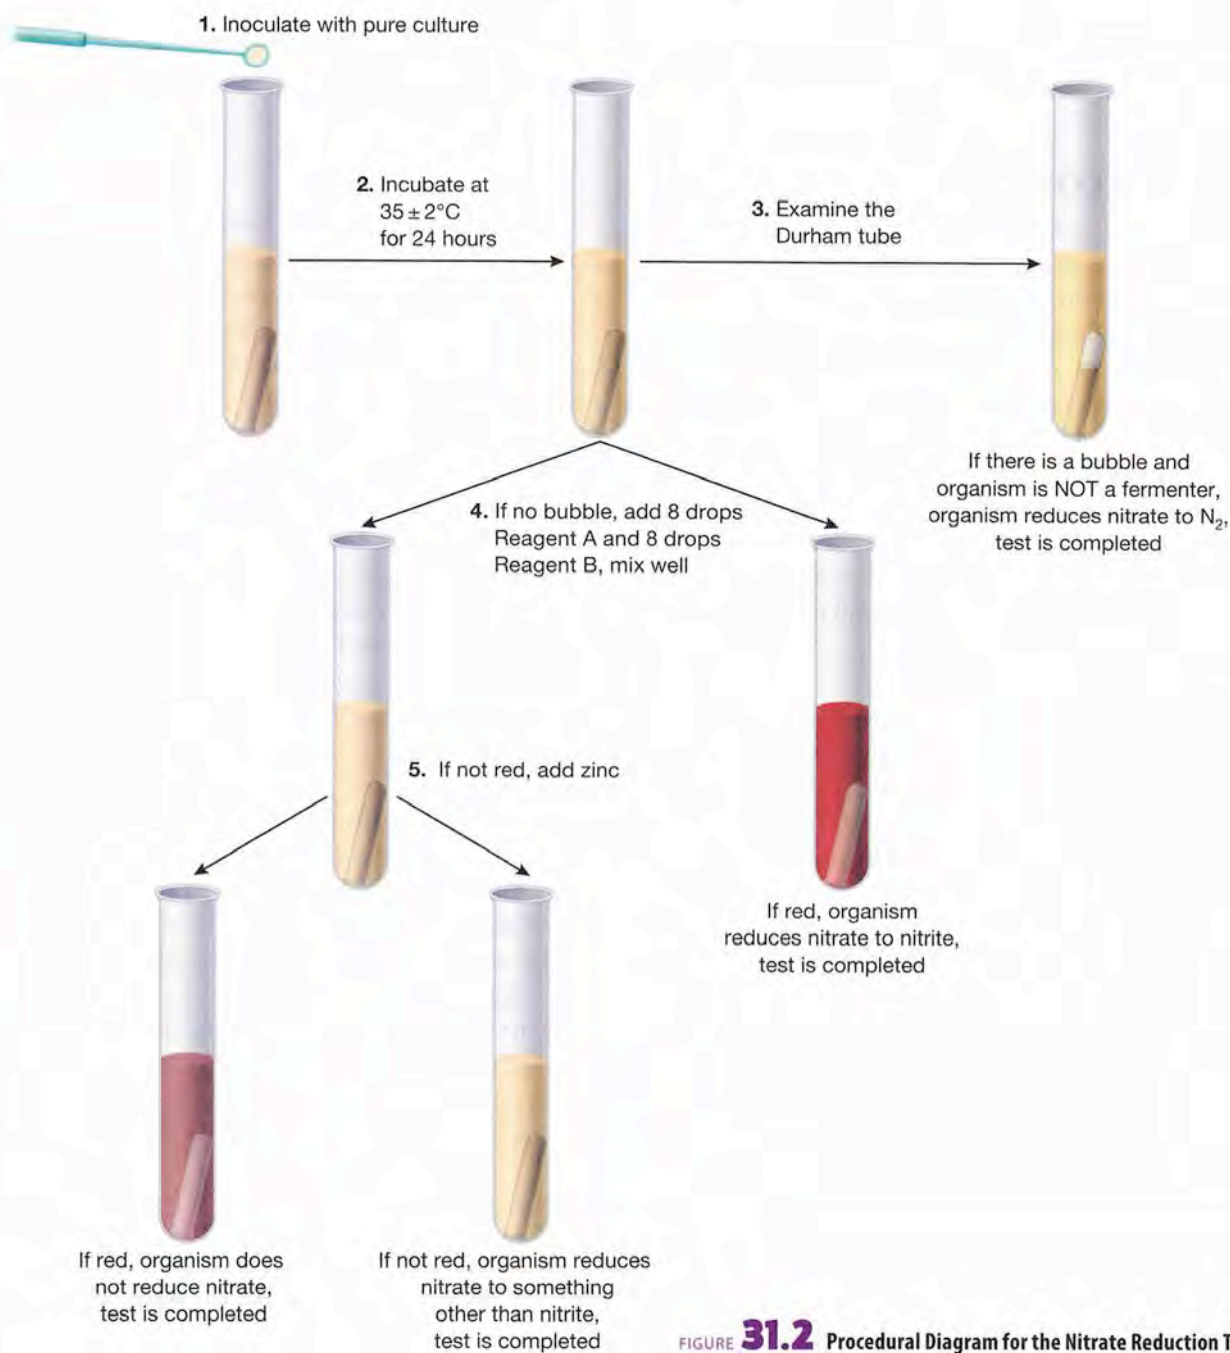

FIGURE 31.2 Procedural Diagram for the Nitrate Reduction Test •
Nitrate broth is a complex (or enriched) medium of beef extract, peptone, and potassium nitrate (KNO_3). An inverted Durham tube in each broth serves to trap a portion of any produced gas. Following incubation, we analyze the test via a three-step process (Fig. 31.2).
- 2 Examine Samples for Bubbles in the Durham Tube:** Following the procedural diagram in Figure 31.2, first examine each tube for evidence of gas production. Record your results in the table provided at the end of the exercise. Refer to Table 31.1 when making your interpretations. (Be methodical when recording your results. Red color can have opposite interpretations depending on where you are in the procedure.)
- 3 Add Reagents A and B to Each Sample and Make Observations:** Continue using Figure 31.2 as a guide and proceed to the addition of Reagents A and B to *all* tubes. Add 8 drops (approximately 0.5 mL) of Reagent A and then 8 drops (approximately 0.5 mL) of Reagent B to each tube. Mix well, but carefully, and let the tubes stand undisturbed for 10 minutes. Using the control as a comparison, record your test results in the table provided in the data sheet. Set aside any test broths that are positive.